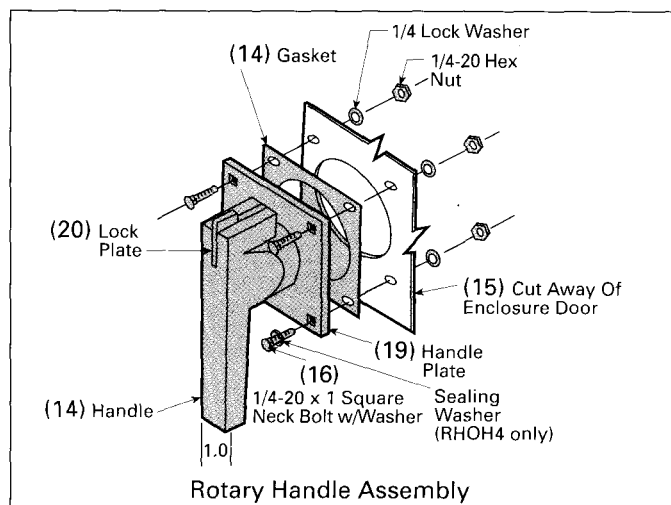

Figure 3
- Attach the handle (14) and gasket (15) to the enclosure door with the four square neck bolts (16), lock washers and nuts supplied. Tighten nuts to 75 in-lbs. (Figure 3).
To open the enclosure door when the breaker is in the ON position, rotate the screw slot on the handle plate (19) counter-clockwise. This procedure will defeat the interlock (Figure 3).
- To lock handle in the OFF position, pull the lockplate (20) (Figure 3) from the end of handle into the grooves on the handle plate located at the interlock defeater screw and attach padlock(s) through slot of lockplate.